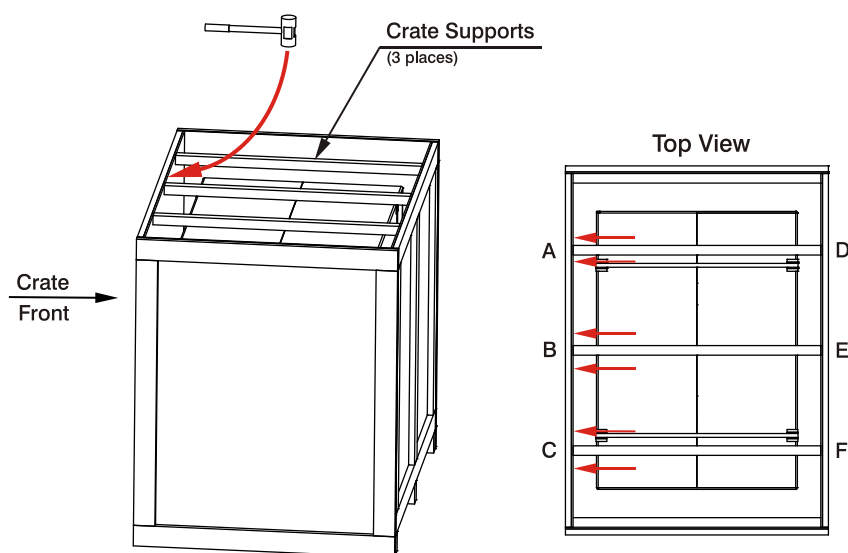

Figure 3.5
Step 7: Remove the crate front from the crate supports at points A, B and C using a hammer and/or crowbar. See Figure 3.5.
Step 8: Remove the crate supports from the crate back at points D, E, and F using a hammer and/or crowbar. See Figures 3.5 and 3.6.